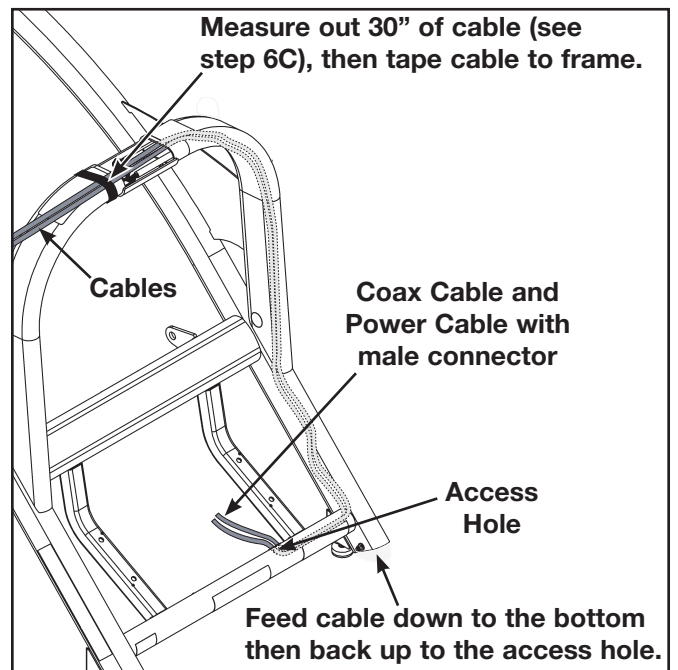

Figure 8
- A. Locate the coax and power cable (F).
- C. Measure out 30" of cable and then tape cable to frame as shown in Figure 8.
- D. Route the cable inside top of frame as shown in Figure 8.
- F. Route cable back up through the hole and out through the access hole. See Figure 8.
- G. Pull rest of cable through the access hole. See Figure 8.